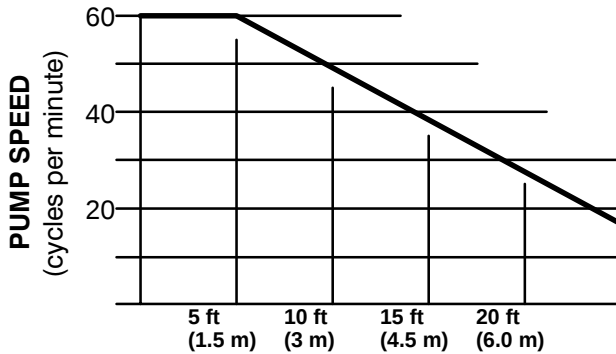

Fig 1 MAXIMUM PULSE LINE LENGTH
2. The **COUNT PULSE** line must be as short as possible, and no more than 20 feet (6 m) long. The maximum length is determined by the speed of the pump. See Fig 1 and the TYPICAL INSTALLATION drawing.
NOTE: For proper counter operation: the pump air supply must be operated within a 20 – 100 psi (1.5 – 7 bar) range. The maximum possible pump speed is determined by the pulse line length. See Fig 1.
3 Pump speed too high	3 Adjust; See Fig 1.